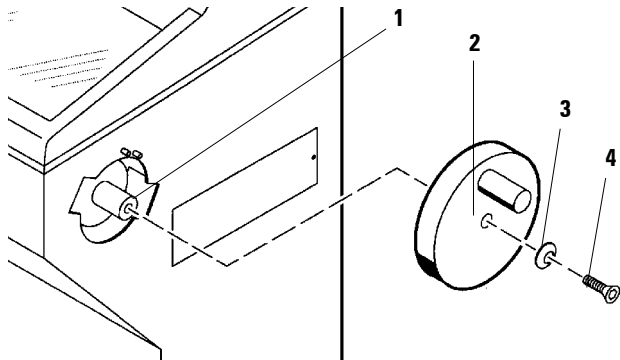

Fig. 12.1
- Insert the pin (1) of the handwheel shaft in to the hole (2) of the handwheel.
- Mount the spring washer (3) on the screw (4) as shown in Fig. 12.1.
- Tighten the screw (4) with an Allen key (5 mm).